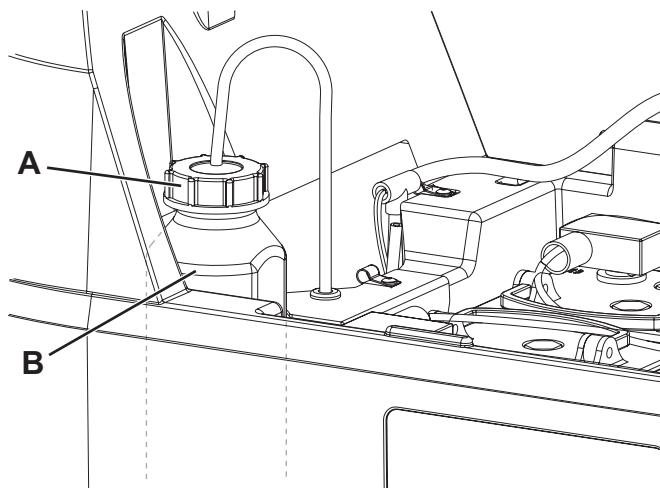

Figure 10
2. Ensure that the machine is off and the ignition key (41) has been removed (if equipped).
3. Lift the cover (34) and check that the recovery tank (33) is empty; if not, empty it using the drain hose (12).
4. Close the cover (34).
5. Grasp the handle (16) and carefully lift the tank (33).
6. Unscrew the cap (A, Fig. 10) from the detergent tank (B).